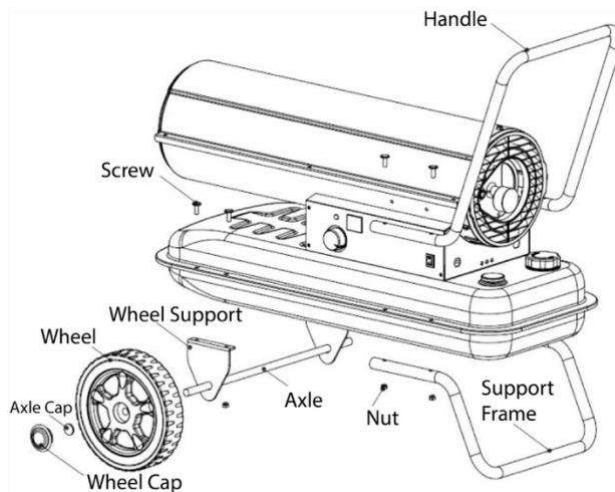

Figure 3. Handle and wheel assembly.
3. Position the handle and support frame over the holes in the fuel tank. Insert the fixings and tighten them securely with the appropriate tool. See **Figure 3**.